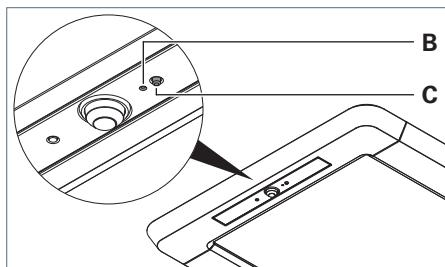
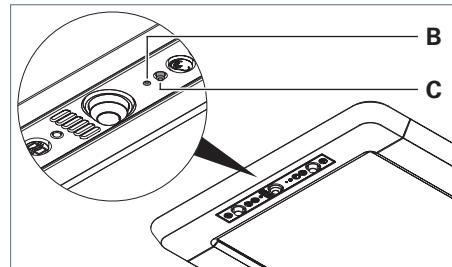

Fig. 28: Assigning the control element, version R.
Fig. 29: Assigning the control element, version RX.
- ▶ Press the key in the opening **B** with the end of opened paper clip, see Fig. 28 and see Fig. 29.
- ▶ Press the key **C**, see Fig. 28 and see Fig. 29.
- ▶ Press the key **C** and keep this key pressed, see Fig. 28 and see Fig. 29.